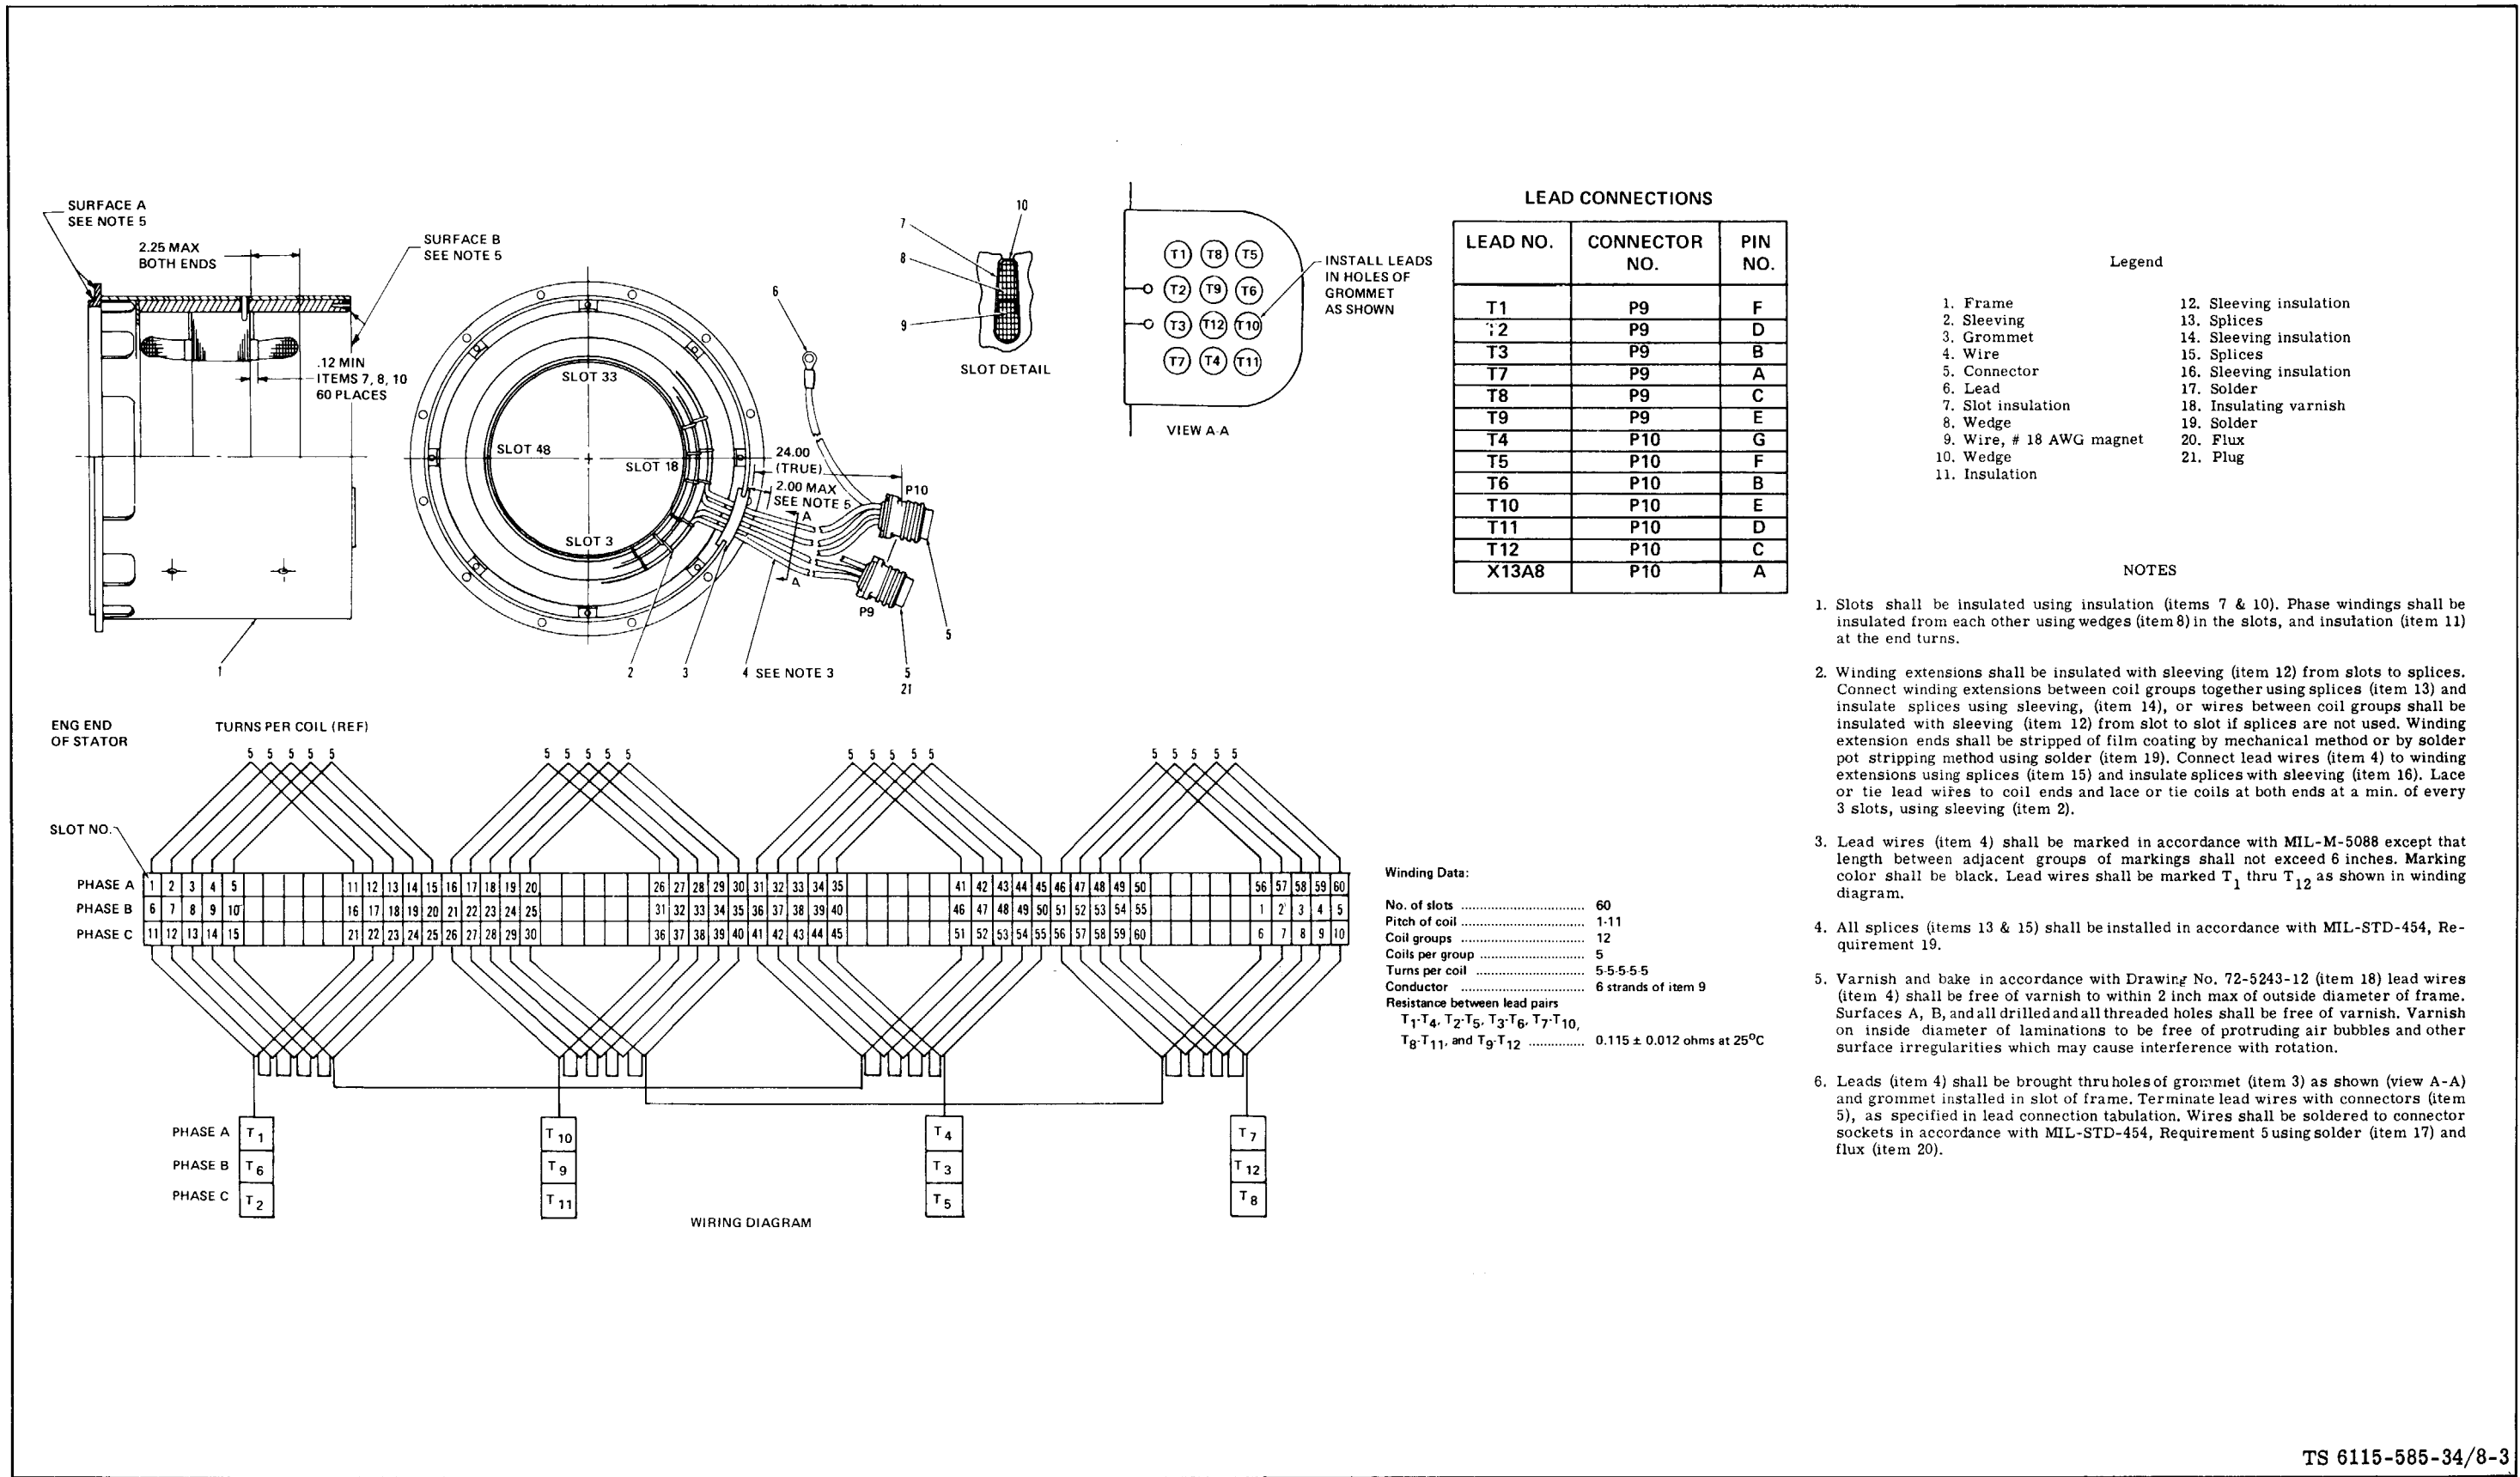

Figure 8-3. Generator Frame Assembly Winding Data (MEP-003A)
(1) High Potential Test. Test generator stator as given in paragraph 8-2e of this manual. Replace stator having faulty insulation.
(2) Winding Resistance Test. Perform winding resistance test using a Kelvin bridge. Follow the manufacturer's instructions given on the bridge. Resistance readings should be made on the pins of P9 and P10 (see figure 8-3). Resistance between lead pairs T_1 - T_4 , T_2 - T_5 , T_3 - T_6 , T_7 - T_{10} , T_8 - T_{11} and T_9 - T_{12} should be 0.115 ± 0.112 ohms at 77° F (25° C) for the MEP-003A. For the MEP-112A, resistance should be 0.071 ± 0.007 ohms. Refer to the table in figure 8-3 for location of the terminals.
(1) Generator frame assembly (see figure 8-3).